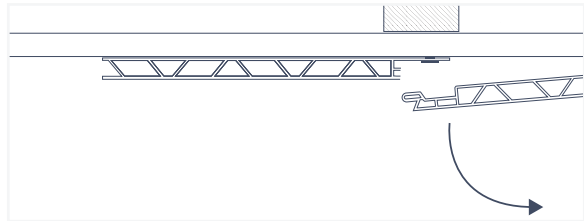

Fig. 42
5. Now, tilt the adjacent panel out of the way and remove the screws from the damaged panel (Fig. 42). [next page]